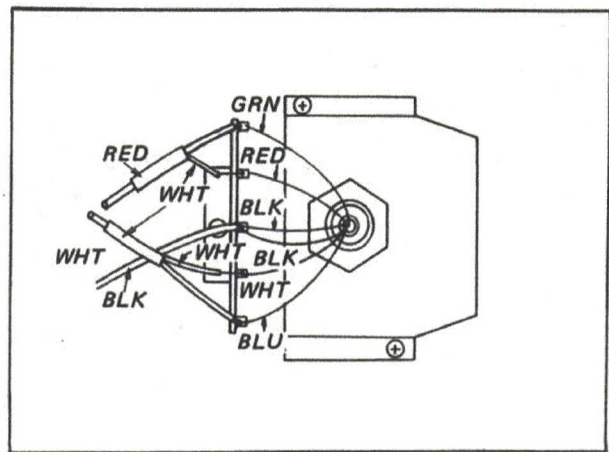

Fig. 2-13. Lead wire connection
4. Unsolder the leads from the terminal beneath the turntable base (See Fig. 2-13).